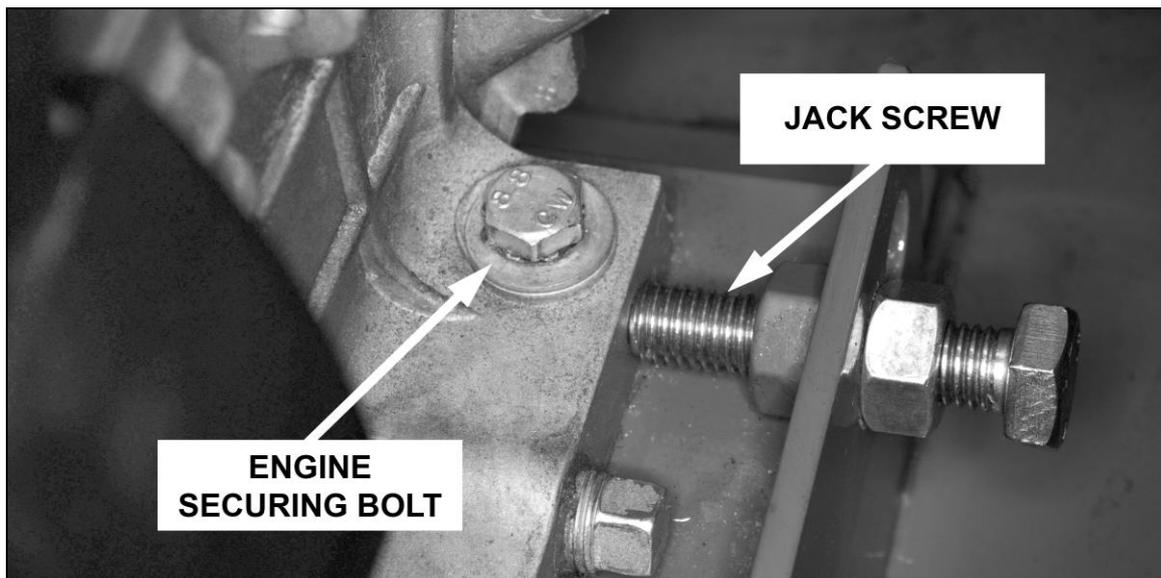

Fig. 8 – Engine Securing Bolt and Jack Screw
5. Slacken the four M8 bolts securing the base of the engine to the mounting plate on the frame by one turn. Note that these bolts fit into tapped holes so there are no loose nuts under the plate. See Fig. 8.
7. Turn the jack screws alternately and by equal amounts to move the engine and tension the belts. Continue turning the screws until the belts are correctly tensioned – see (3) above.
2. Slacken the four M8 bolts securing the base of the engine to the mounting plate on the frame by one turn. Note that these bolts fit into tapped holes so there are no nuts under the plate. See Fig. 8.